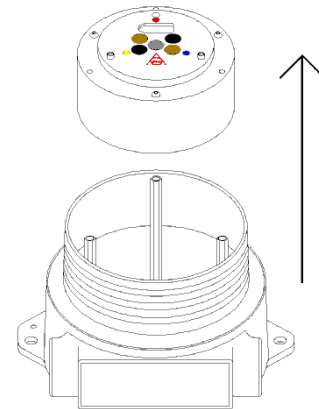

Figure 2-8
7. Slide the Detector Module “puck” out of the enclosure base (see Figure 2-8).